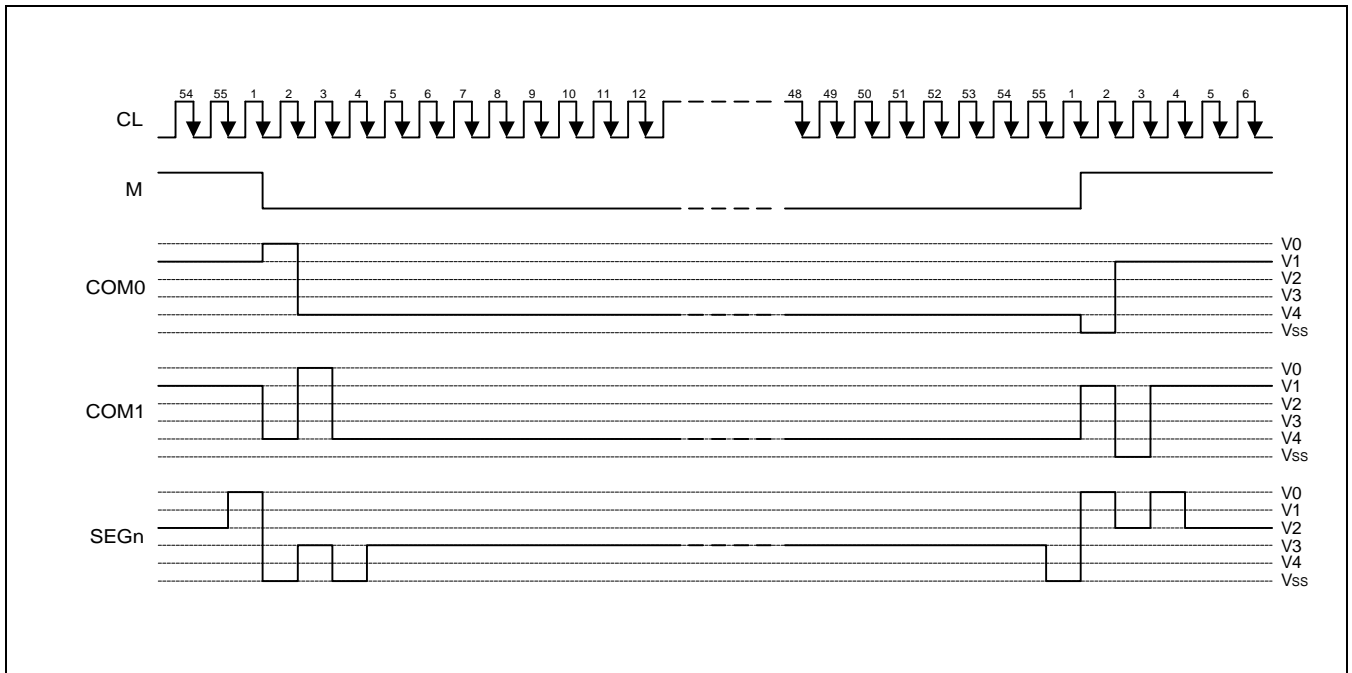

Figure 10. 2-frame AC Driving Waveform (Duty Ratio = 1/55)
This circuit generates some signals to be used for displaying LCD. The display clock, CL, generated by oscillation clock, generates the clock for the line counter and the signal for the display data latch. The line address of on-chip RAM is generated in synchronization with the display clock (CL) and the 100-bit display data is latched by the display data latch circuit in synchronization with the display clock. The display data, which is read to the LCD driver, is completely independent of the access to the display data RAM from the microprocessor. The display clock generates an LCD AC signal (M) which enables the LCD driver to make a AC drive waveform, and also generates an internal common timing signal and start signal to the common driver. Driving 2-frame AC driver waveform and internal timing signal are shown in figure 10.